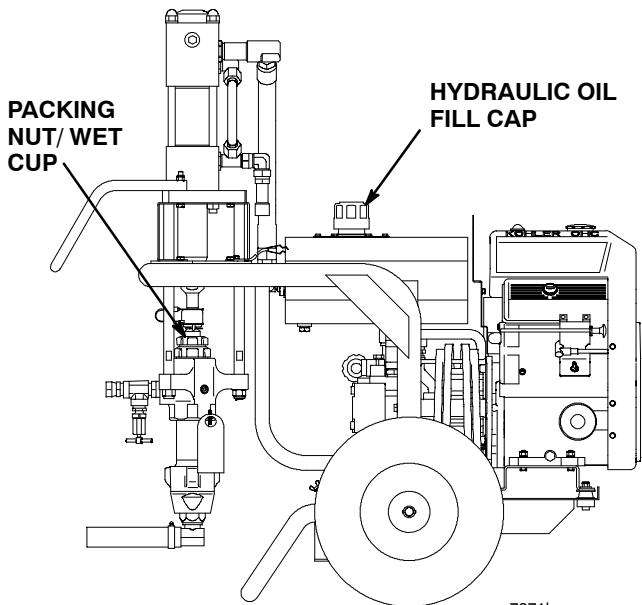

Fig 2
- Fill the Packing Nut/Wet Cup** 1/3 full with Graco Throat Seal Liquid (TSL), supplied. See Fig. 2.
- a. Unscrew the hydraulic oil fill cap. See Fig 2. The dipstick is attached to the cap. The oil should be up to the full line on the dipstick.